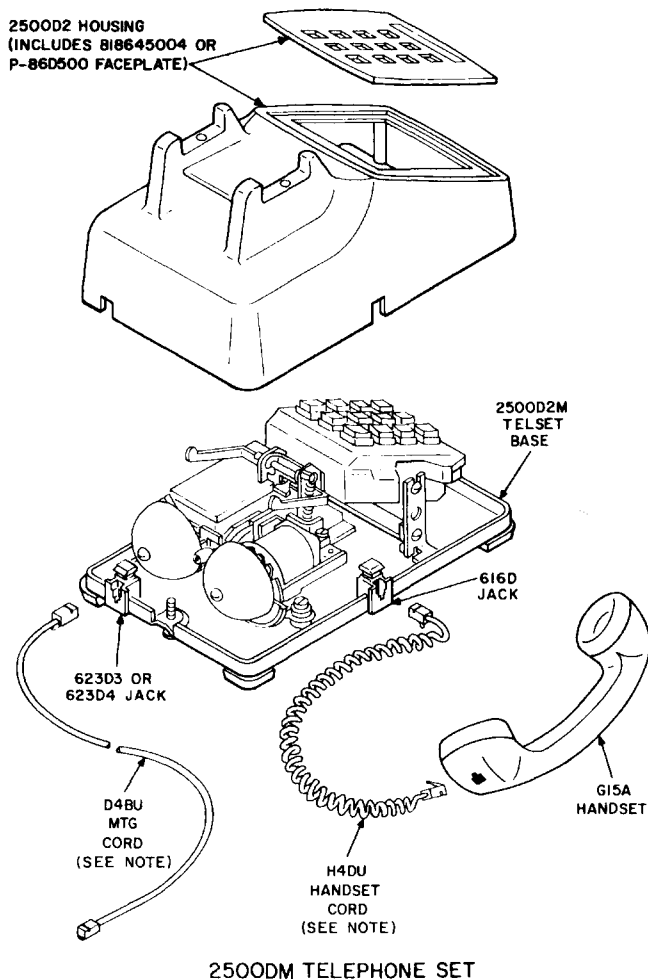

Fig. 2—2500DM Telephone Set, Assembly
- (i) Has a 4228B (MD), 4293G, or 4293P network.♦
2.07 ♦The Z2554BMPGA telephone set is the same as the 2554BMPA except it has a Z72JG3A dial (Fig. 30).♦ The following components can be assembled to provide a modular (desk or wall) telephone set (Fig. 2 or 3).
- (1) 2500D2M (Fig. 2) and 2500D2MG TOUCH-TONE telephone desk set base
- (1) 2500D2 Housing [includes old type nonflexible (Fig. 2) or new type flexible (Fig. 4) faceplate]
- (2) 2554B2 Housing.